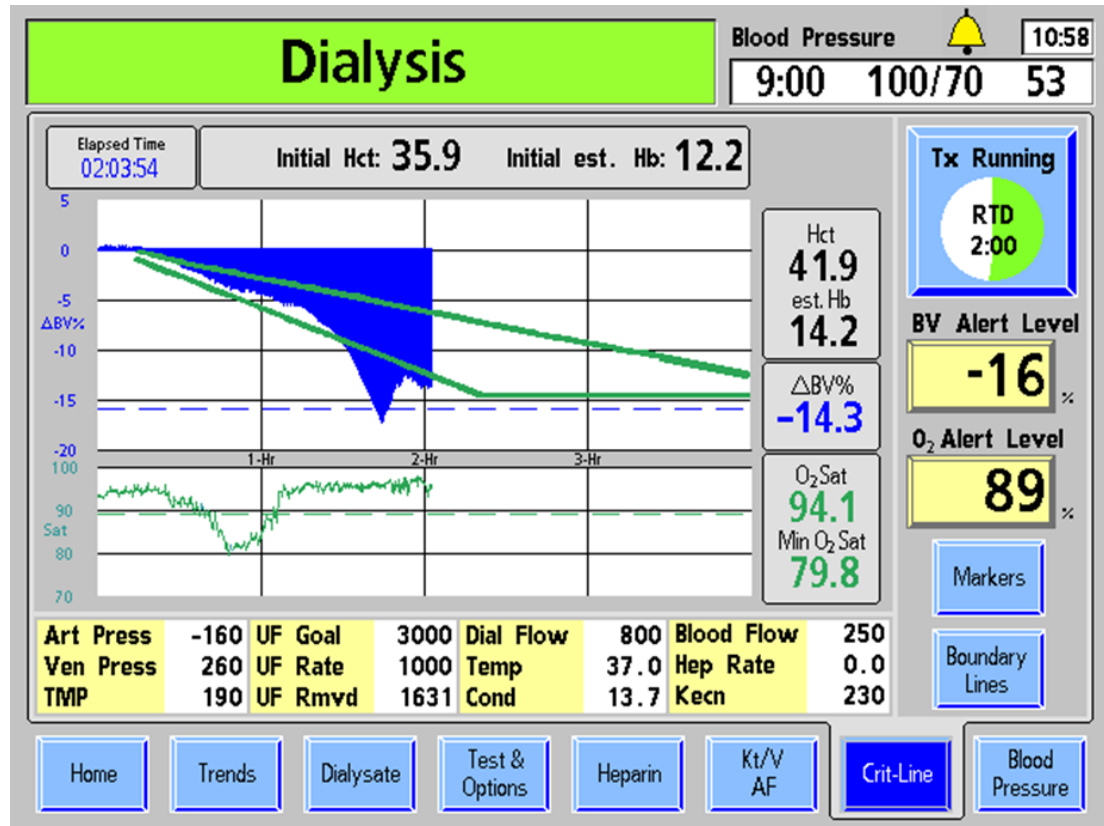

Figure 77 – Crit-Line Screen (Showing BV with Boundary Lines and O₂ Saturation) (Showing functional software version 2.74 or later)
The “Crit-Line” screen can display either Blood Volume (BV) (see Figure 77 on page 156) or Hematocrit (Hct) (see Figure 78 below) on the upper graph depending on the Service Mode setting.
<p>Boundary Lines – If enabled by pressing the Boundary Lines button, these two green lines on the BV graph show where a per hour drop of -3% and -6.5% in relative blood volume would be. The lower line does not go below a -15% drop for the entire treatment. The two lines are displayed at the beginning of treatment, but do not cover the first 15 minutes of treatment (see Figure 77). After four hours of treatment, the boundary lines disappear.</p> <p>When boundary lines are displayed, the blood volume change profile letter (A, B or C) is not shown.</p>
The BV (Blood Volume) graph (Figure 77 on page 156) is displayed as a fill graph. A line is filled from 0 to the $\Delta BV\%$ value. As the dialysis treatment progresses, fluid is taken out of the blood by the 2008T hemodialysis machine’s ultrafiltration pump. This will result in a greater percentage of the blood being red blood cells and the blood volume fill graph will trend downwards and approach the alert level. The BV alert level is drawn as a blue dotted line across the BV graph.
Oxygen saturation is the default display on the “Crit-Line” screen’s bottom graph. The O₂ Sat (Oxygen Saturation) graph (Figure 77 on page 156) is a line graph drawn from the previous oxygen saturation value. The O₂ Alert Level is drawn as a green dotted line across the Oxygen Saturation graph.